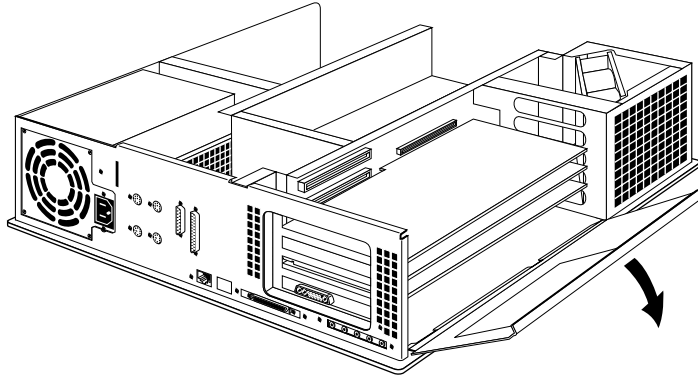

Figure 4-11 Opening the Metal Panel in Front of the Expansion Slots
3. Open the metal panel located in front of the EISA expansion slots by pulling up on the panel and lowering it down, as shown in Figure 4-11.